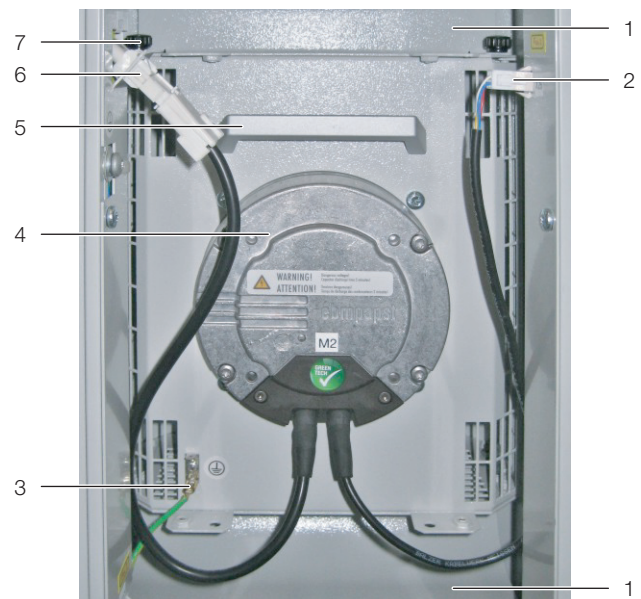

Fig. 44: Fan module in fan tray
- Release the two DC and AC fan connectors on the left and right (fig. 44, items 2 and 6).
- Disconnect the PE conductor connection on the fan (fig. 44, item 3).
- Loosen the two knurled screws, right and left (fig. 44, item 7), at the top and bottom of the fan air baffle plates.